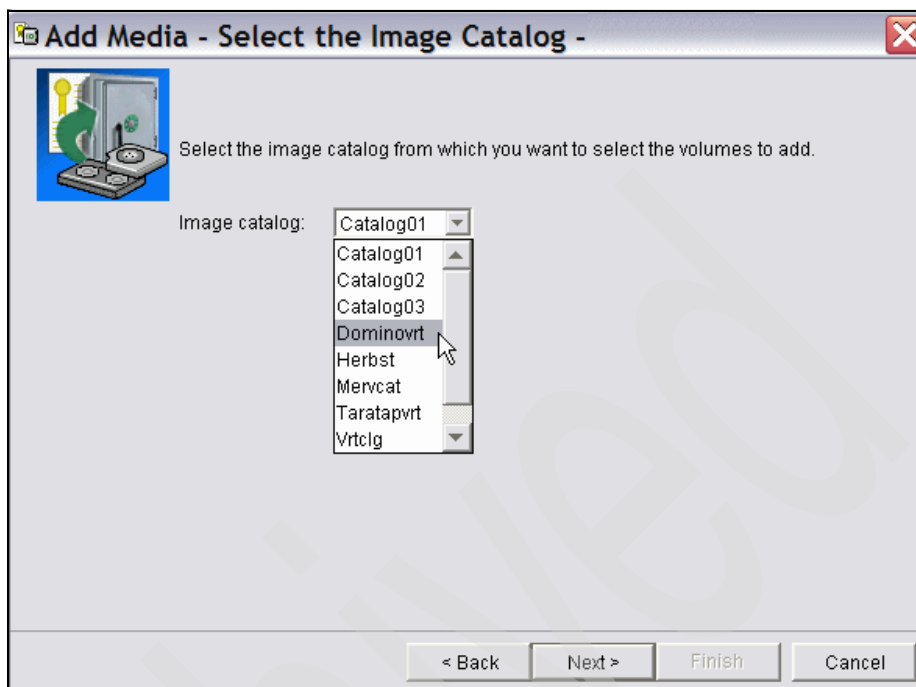

Figure 5-31 BRMS backup policy, select image catalog to pick volumes from
18. To specify where the virtual volumes are, scroll down against Image catalog in the Select Image Catalog window shown in Figure 5-31 on page 219, and select the corresponding value (**Dominovrt**). Click **Next**.